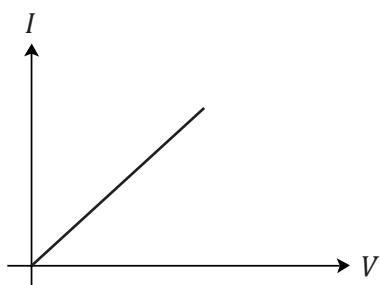

Figure 2.28 I - V graph of an ohmic conductor
If we plot a graph of the current (I) through this conductor against the p.d. (V) across it, we get the I - V graph shown in Figure 2.28. Notice that the graph is a straight line through the origin. Such a conductor is said to obey Ohm's law and is called an **ohmic conductor**.